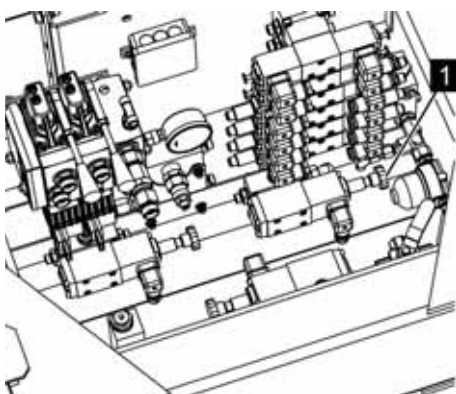

Fig. 106: Valves
4. ➤ For outrigger operation, lock the shuttle valve (Fig. 106/1).